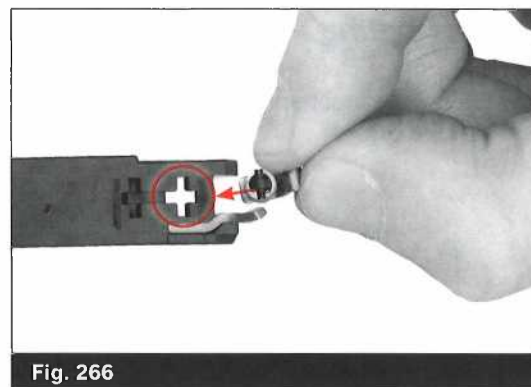

Fig. 266
- Align the trigger spring as shown in the picture with the upper slot. (Fig. 266)